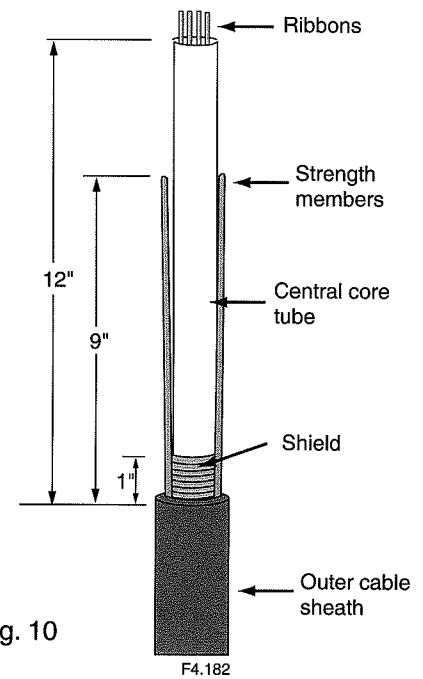

Fig. 10
2. Carefully cut the central core tube 12" from the sheath ring cut as in Figure 10.